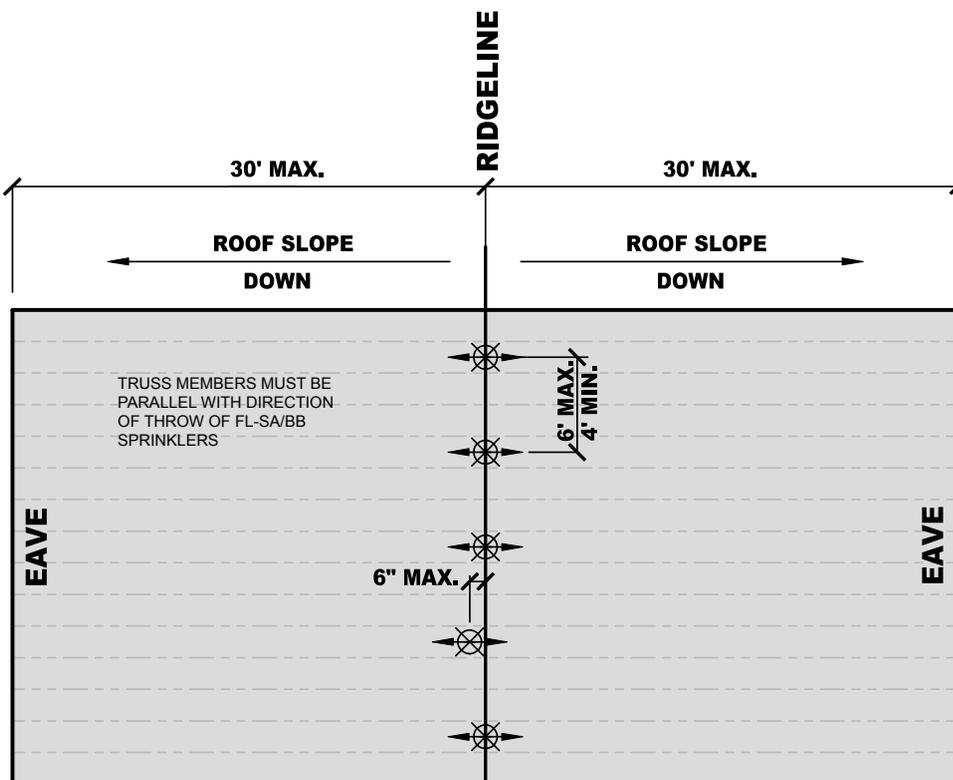

FIGURE 7: GABLE LAYOUT CRITERIA
- See Figure 7 for detailed layout criteria.
- See Figure 7 and Figure 8 for detailed layout criteria.